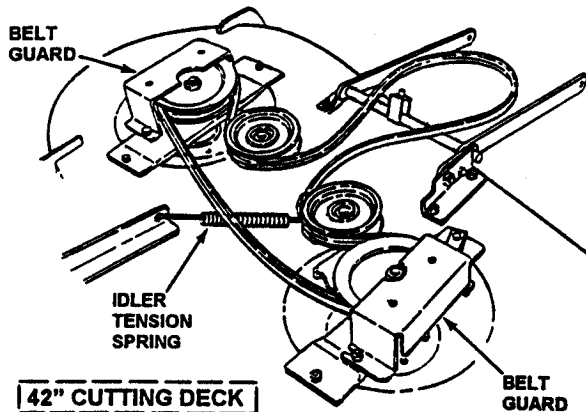

FIGURE 40
9. Slide deck forward to allow idler spring to release tension. See Figures 40 and 42 on page 22.
Loosen Locknuts securing the Spindle Pulley Belt Guards and swing Guards away from Pulleys. Disconnect Idler Tension Spring from the Deck Bracket as shown in Figure 40.